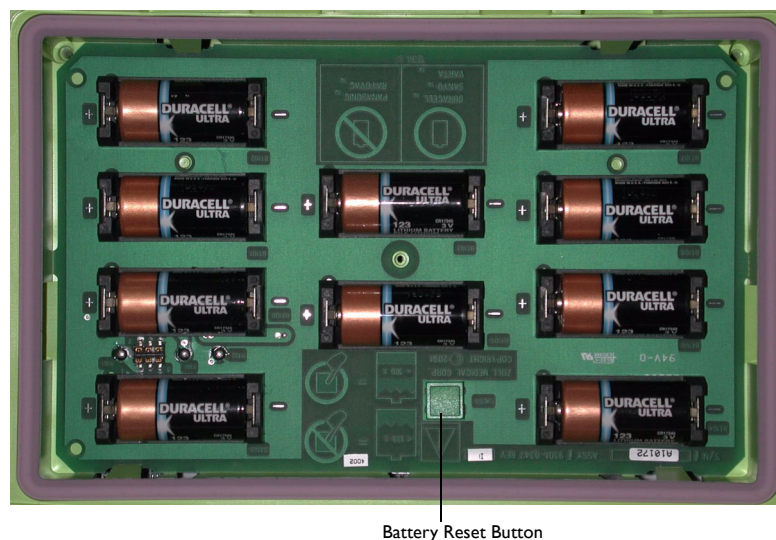

Figure 8: Battery Compartment
3. After installing new batteries, press the Battery Reset button inside the battery compartment when prompted (see Figure 8). Pressing the button resets the battery usage indicator to full charge.